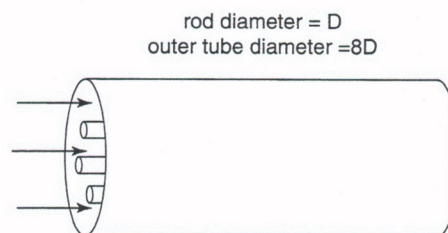

Figure 10.19
17. Using a numerical simulator [5, 27], calculate the velocity field for axial unidirectional flow in the void space around three tubes mounted inside a cylindrical shell (Figure 10.19). Assume steady flow of an incompressible Newtonian fluid. Make your calculations in the creeping-flow regime. Review the mesh in Figure 10.2.